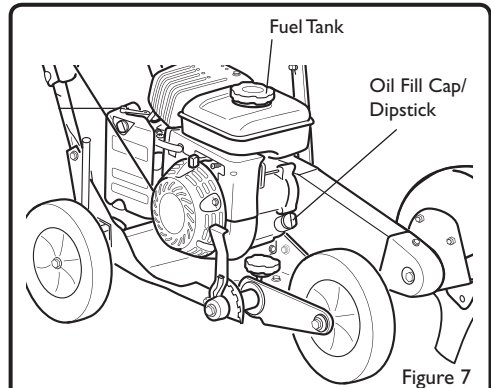

Figure 7
2. Remove the oil fill cap/dipstick and wipe clean with cloth. (See Figure 7)